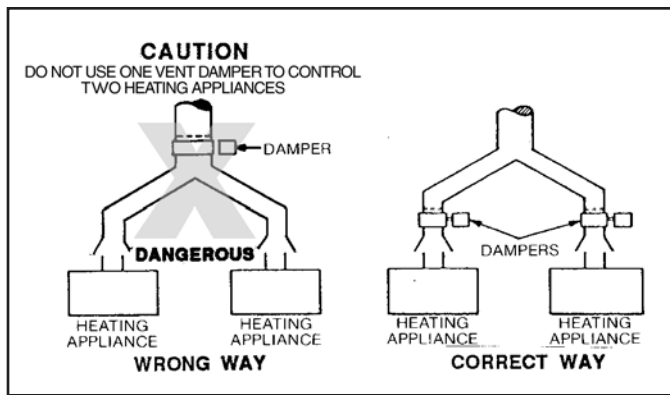

Figure 3.
3. This device must be located in a venting system or section of a venting system so that it serves only the single appliance for which it is installed. (See figure 3.)
tion of vent gas flow (towards chimney). Re-assemble the vent piping. Be sure the vent damper is well seated and fastened with 3 sheet metal screws. Screws should be no longer than 1/2 inch. See figure 3.